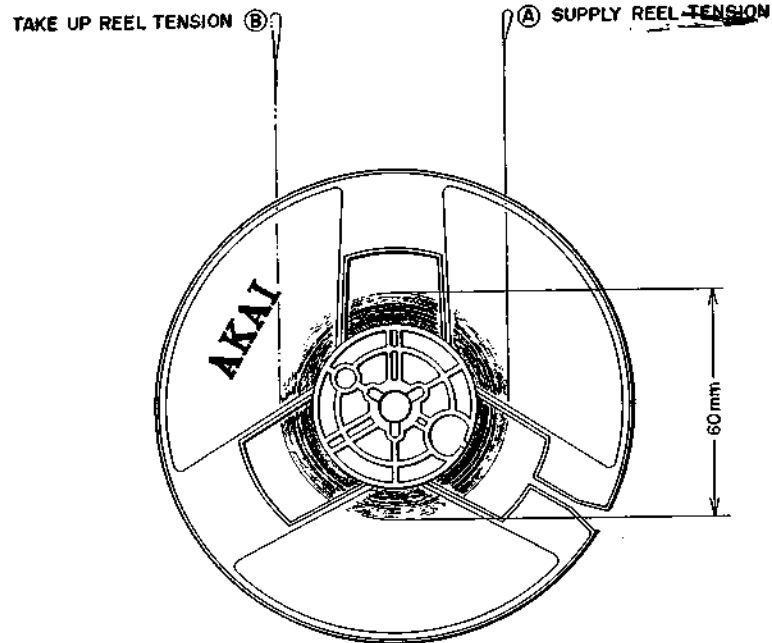

Fig. 11
For measuring the tension of each reel, it is ideal to use on empty 5" reel on which a tape has been wound to cover a 60 mm diameter as shown in Fig. 11.
Check and Adjustment (See Fig. 11- (A))
Check and Adjustment (See Fig. 11- (B))
- (a) To measure the tension between felt (2) and rewind roller A (10), load the tape and at forward mode, gently pull end of tape upward with a spring gauge (Fig. 11- (B)) Ideal tension at this part is 400 to 500 gr.